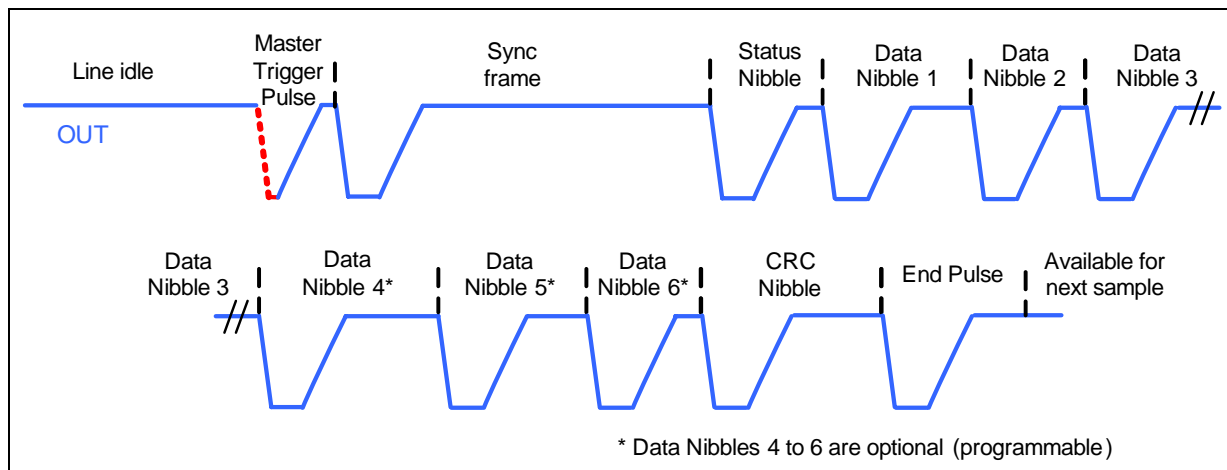

Figure 11 SPC Frame
As in SENT, the time between two consecutive falling edges defines the value of a four bit nibble, thus representing numbers between 0 and 15. The transmission time therefore depends on the transmitted data values. The single edge is defined by a 3 unit time (UT) low pulse on the output, followed by the high time defined in the protocol (nominal values, may vary by tolerance of internal RC oscillator, not including analog delay of the open drain output and influence by external circuitry, unit time programming see Section 12.2). All values are multiples of a unit time frame concept. A transfer consists of the following parts, depicted in Figure 11:
In the “synchronous” mode, the sensor (slave) starts to transfer a complete data frame only after a low pulse is forced by the master on the OUT pin. This means that the data line is bidirectional - an open drain output of the microcontroller (master) sends the trigger pulse. The sensor then initiates a sync pulse and starts to calculate the new output data value. After the synchronization period, the data follows in form of a standard SENT frame, starting with the status, data and CRC nibbles. At the end, an end pulse allows the CRC nibble decoding and indicates that the data line is idle again. The timing diagram in Figure 11 visualizes a synchronous transmission.